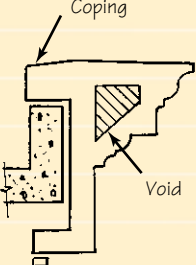

Fig. 3-6
- Incorporated with a void to reduce weight and add coping on the crown (as in Fig. 3-6).